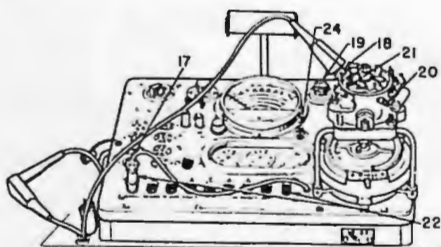

Fig. 3
- 17 Plug meter on adapter in % of dwell socket (Fig. 3).
- 18 Ground positive low tension lead to distributor case (Fig. 3).
- 19 Adjust reading to exactly 100% with dwell rheostat (With stroboscope running at 500 R.P.M.) (Fig. 3).
- 20 Connect positive low tension lead to distributor primary terminal (Fig. 3).